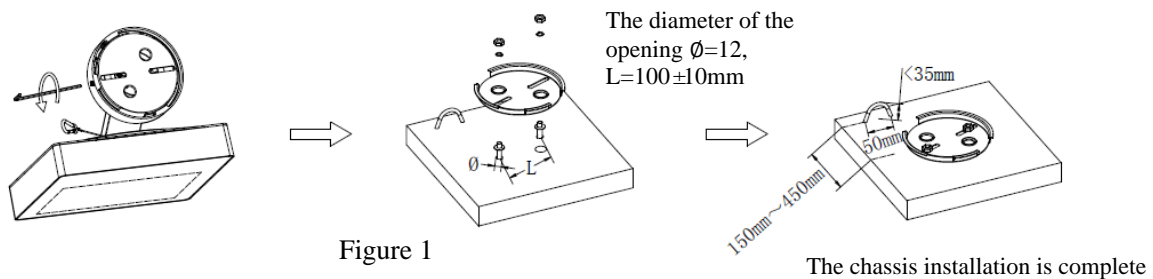

Figure 1
1. Unpack the package, take out the lamp, and loosen the fastening screws on the side of the base with an Allen wrench (4.0mm). Take out the installation chassis counterclockwise, drill $\text{Ø}12$ holes on the mounting surface, the center distance of the hole is $L=100\pm 10\text{mm}$, fix the M8 expansion bolt, place the chassis, and then lock the nut with a tool (as shown in Figure 1)